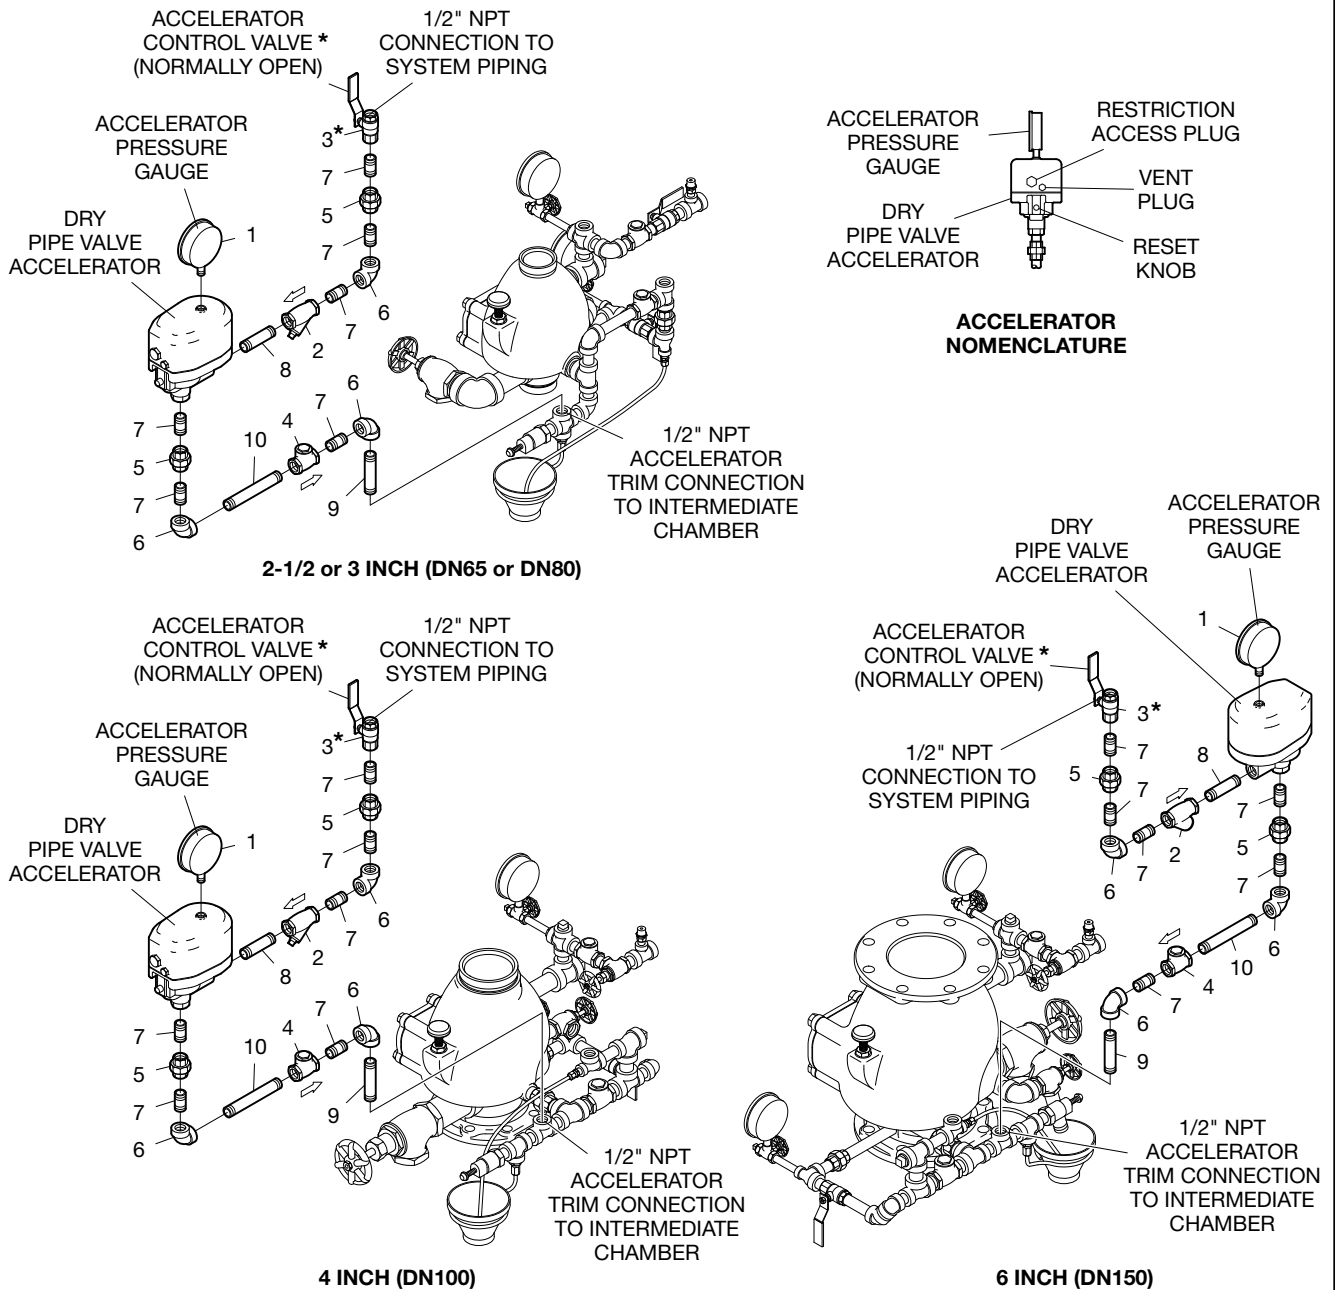

FIGURE 4
Step 1. The accelerator must be positioned vertically and trimmed per the arrangement shown in Figure 4. Apply pipe thread sealant sparingly to male threads only.